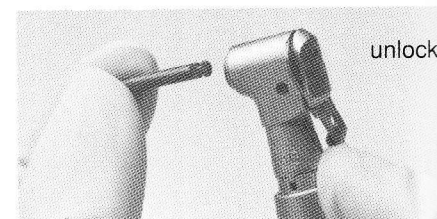

Figure 24
1. Push bur latch to right to open. See Figure 24.